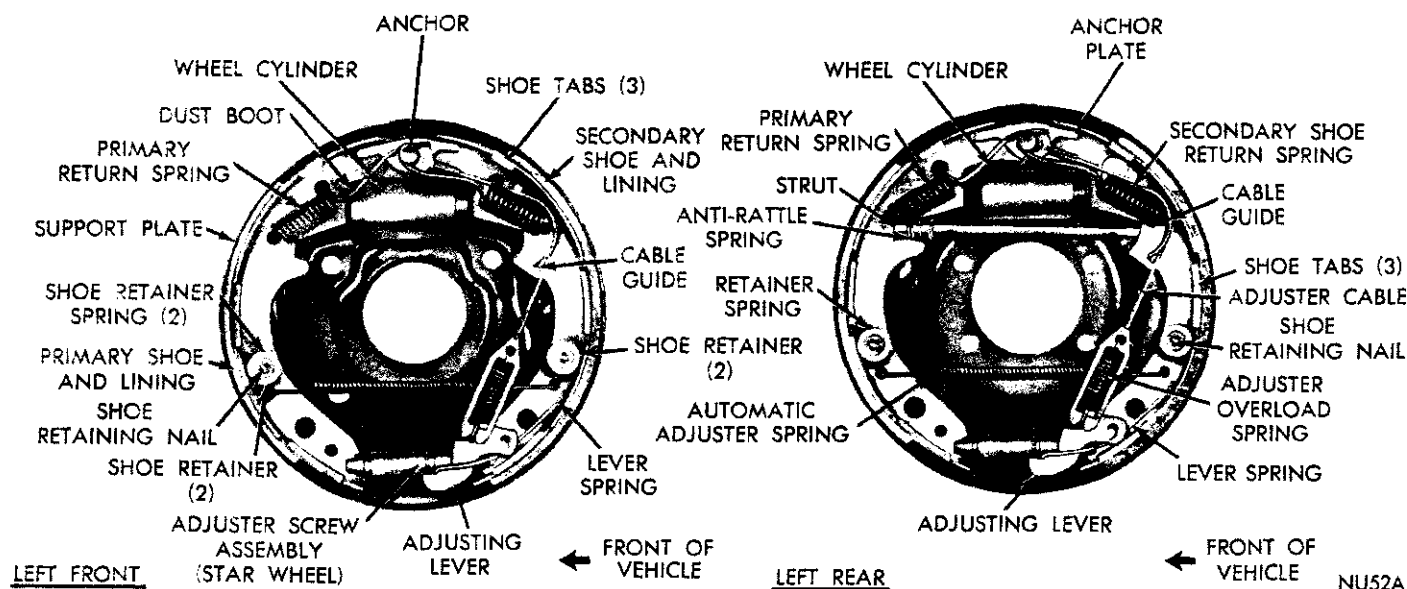
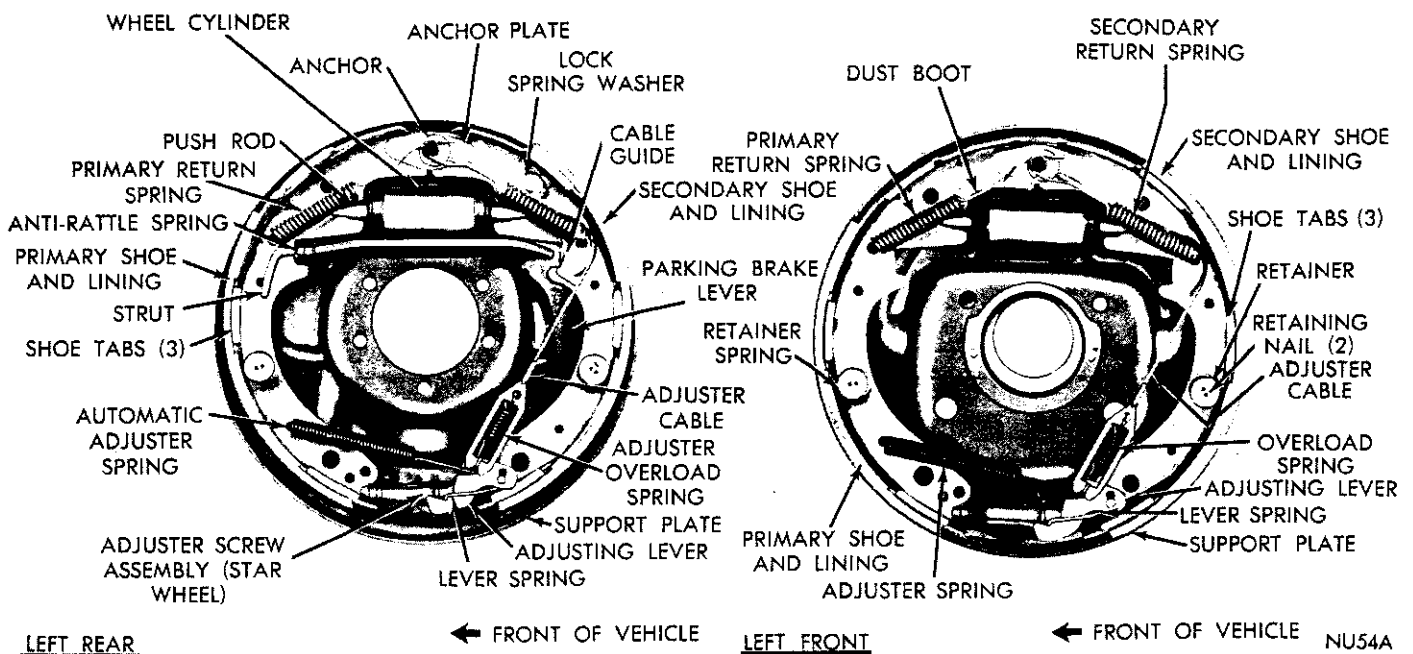
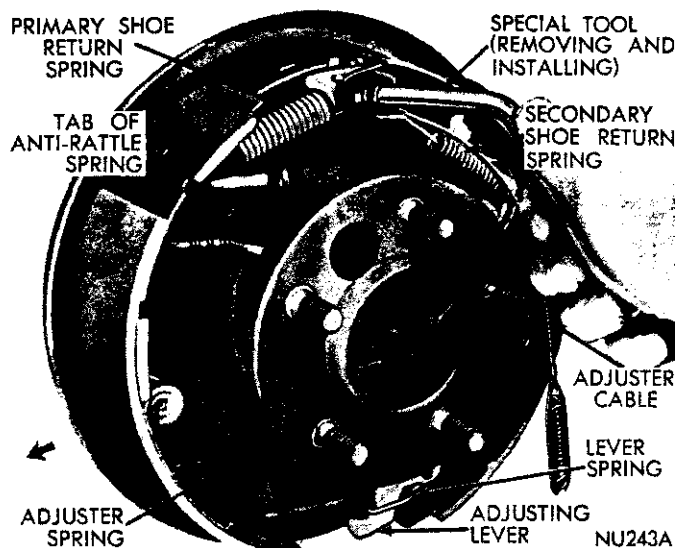
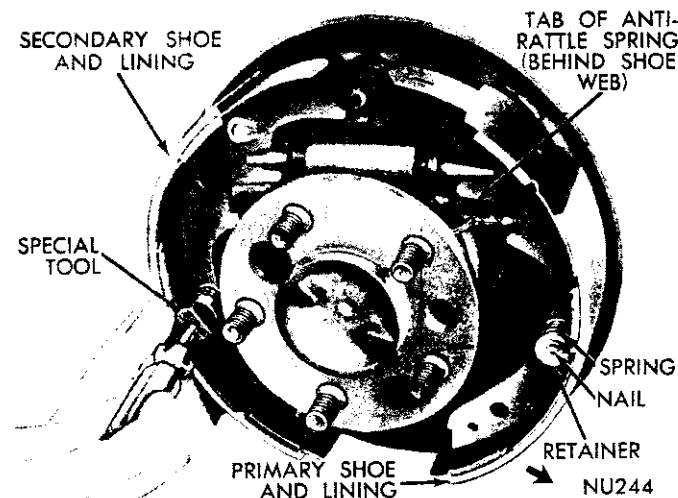

Fig. 1—Nine Inch Brake Assembly
Fig. 3—Eleven Inch Brake Assembly
Fig. 6—Removing or Installing Shoe Return Springs (Left Rear)
Fig. 7—Removing or Installing Shoe Retainers, Springs and Nails (Right Rear)
(1) Remove rear plug from brake adjusting access hole.
(2) Insert a thin screwdriver into brake adjusting hole and push adjusting lever away from star adjusting wheel. **Care should be taken not to bend adjusting lever.**
(3) Insert Tool C-3784 into brake adjusting hole and engage notches of brake adjusting star wheel. Release brake adjustment by prying down with adjusting tool.
(4) Remove wheel cover, grease cap, cotter pin, lock, adjusting nut, outer wheel bearing and remove wheel and drum assembly from spindle to expose brake linings. (Figs. 1, 2 or 3).
(5) Inspect brake lining for wear, shoe alignment, or contamination from grease or brake fluid.
(1) Using Tool C-3785 remove brake shoe return springs (Fig. 3). (Note how secondary spring overlaps primary spring). (Fig. 1).
(2) Slide eye of automatic adjuster cable off anchor and unhook from adjusting lever. Remove cable, overload spring, cable guide and anchor plate.
(3) Disengage adjusting lever from spring by slid-
(2) Using Tool C-3785, remove brake shoe return springs (Fig. 6). (Note how secondary spring overlaps primary spring). (Fig. 1).
(3) Slide eye of automatic adjuster cable off anchor and then unhook from adjusting lever. Remove cable, overload spring, cable guide and anchor plate.
(4) Disengage adjusting lever from spring by sliding forward to clear pivot, then working out from under spring. Remove spring from pivot. Remove automatic adjuster spring from primary shoe web and disengage from secondary shoe web. Remove spring.
(5) Remove brake shoe retainers, springs and nails. Using Tool C-4070, (Fig. 7).